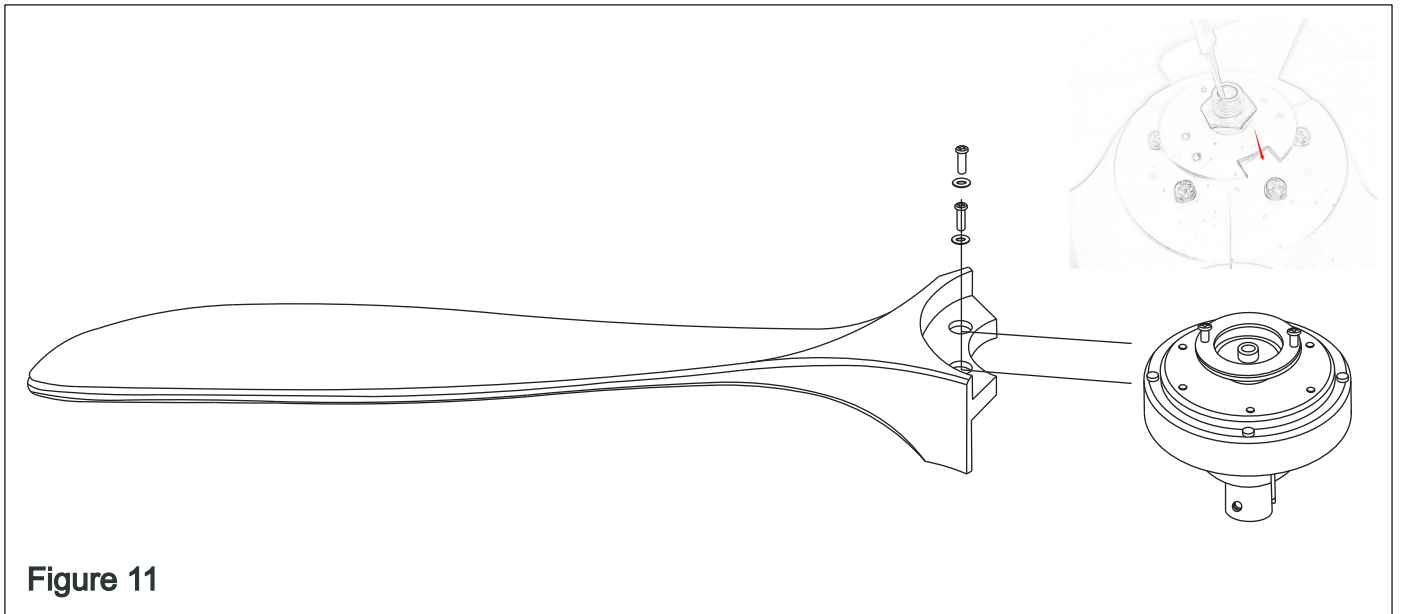

Figure 11
2. Install the fan blades by aligning the holes on the blade with the holes on the fan motor assembly set by the provided set screws and washers. (Figure 11)